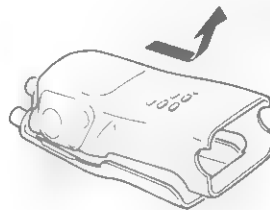

Fig. 3
- 5 Open the front panel from the PTT switch side, being careful of the internal wiring. The PC board mounted on the front panel projects into the top panel by about 3 mm. Pull the front panel down to open it (Fig. 3).